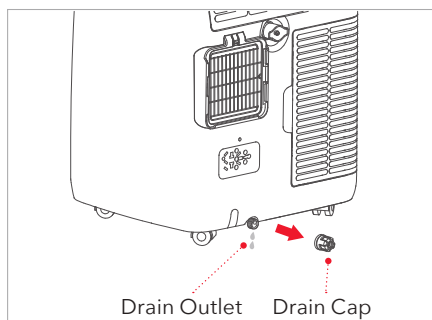

Fig. 18
### MANUAL DRAINING (► FIG. 18)
2. Place a drain pan under the lower drain plug (► Fig. 18).